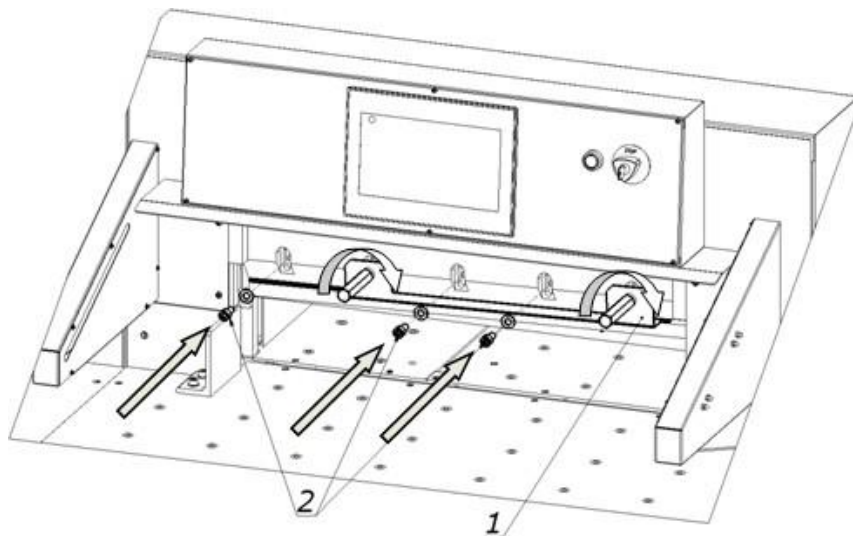
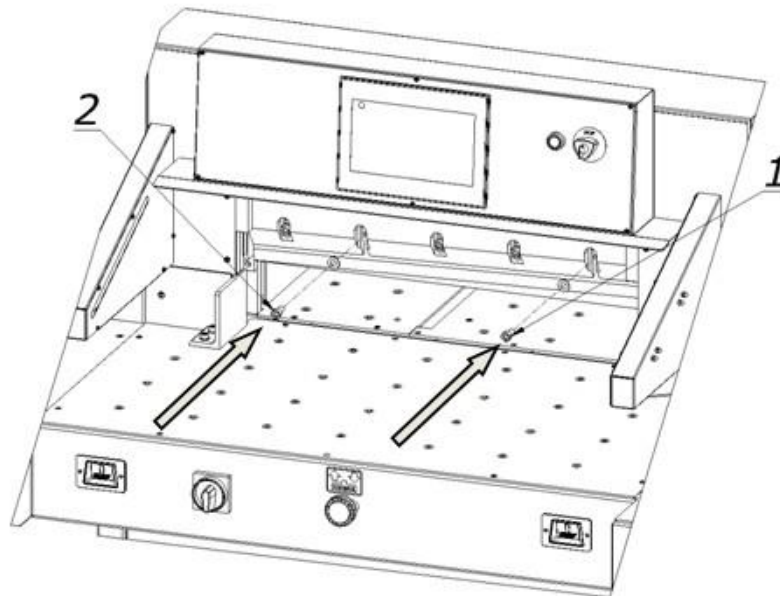

Figure 31.
Figure 32.
- 4.** Pre-attach the knife to the cutter bar by turning both transporting handles 1 to the right (fig. 31).
- 5.** Install the fastening screws 2 (fig. 31).
- 6.** Unscrew both transport lugs 1 (figure 31) and replace them with the mounting screws 1 and 2 (fig. 32).
7. Slightly unscrew the first screw on the left side of the clamping screw 2 (Fig. 31), taking care that the screw head does not protrude above the knife beam sliding plane.
19. Firmly tighten the first screw on the left side of the knife. 2 (Fig. 31).